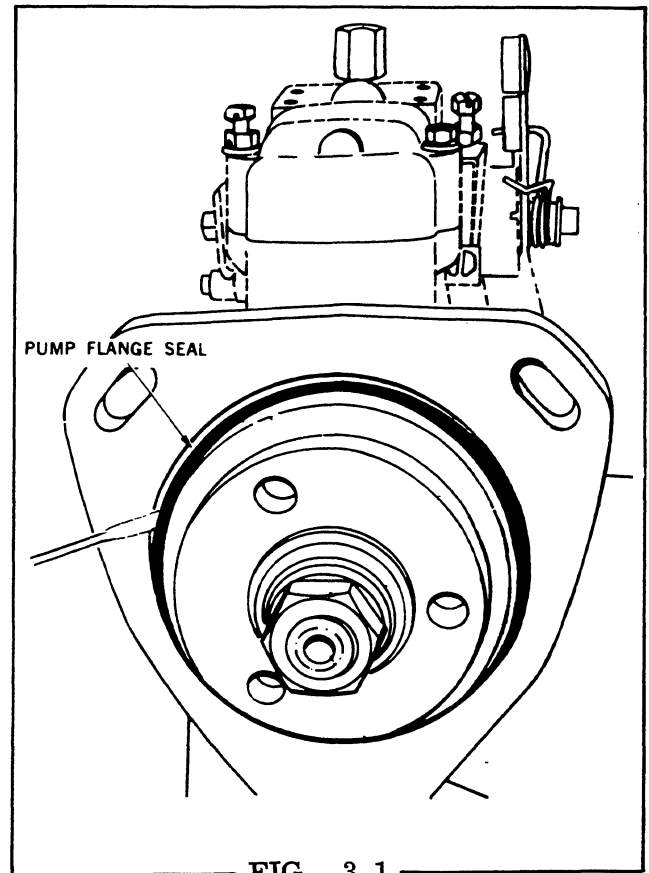

FIG. 3.1
**STEP 1** Remove the pump flange seal from the housing (Fig. 3.1).